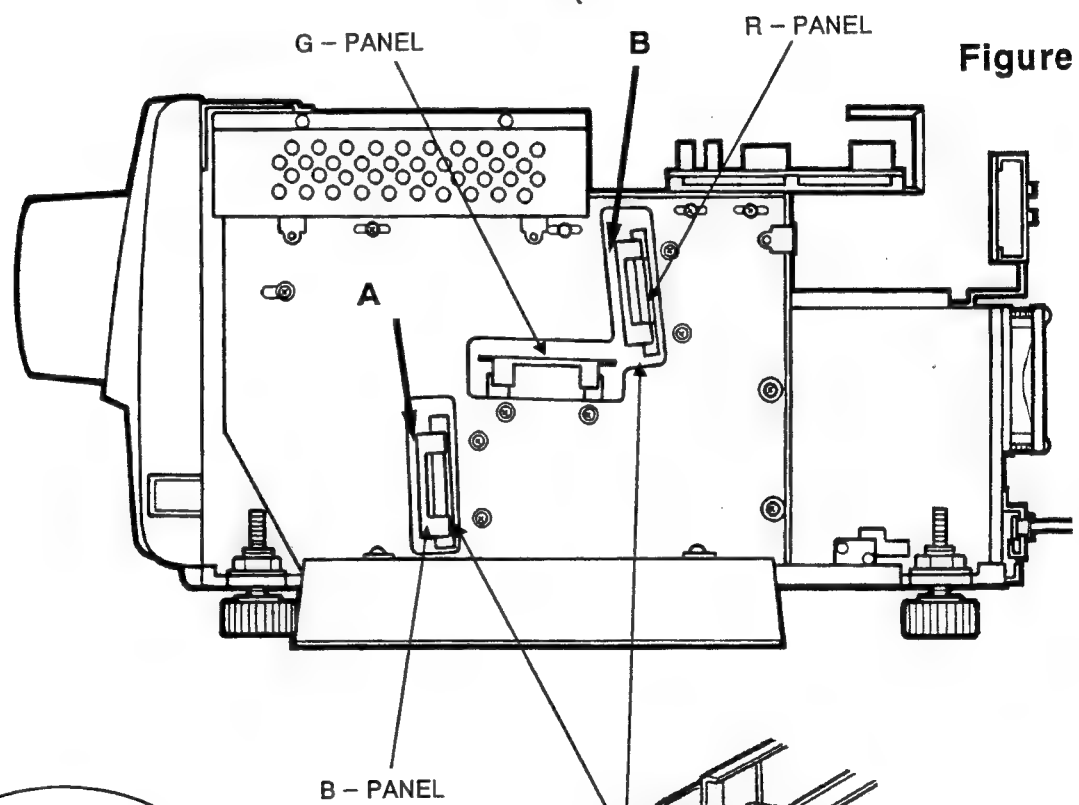

Figure 2
1. Insert paper, etc. in location B shown in Fig.2 to block the R light.